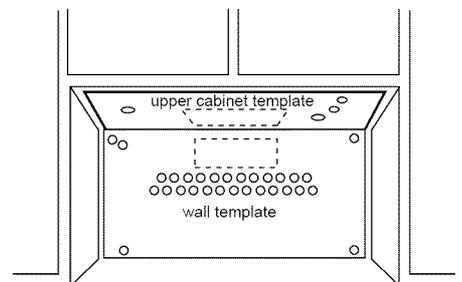

Figure 23
4. Securely tape or tack the wall template to the wall. See Figure 23.
5. Measure the bottom of the upper cabinet frame. Trim the edges "A" "B" and "C" on the upper cabinet template so that the template will fit on the bottom of the upper cabinet. If upper cabinet has a recessed frame, trim template so that it fits inside the recessed area. Align the centerline of the upper cabinet template with the centerline of the wall template; then securely tape or tack the upper cabinet template in place. See Figure 23.